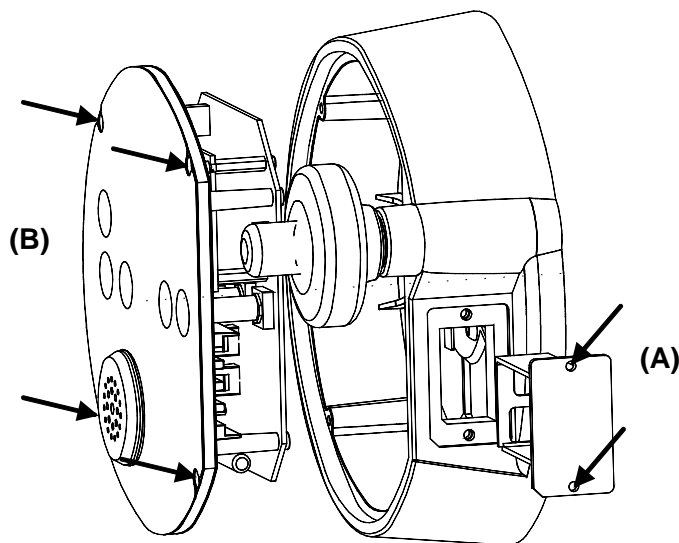

Figure 10-10
- Unscrew with the 2.5 Allen key the 2 screws (A) of the battery holder and pull it out as shown on Figure 10-10.
- Unscrew with the 2.5 Allen key the 4 screws (B) of the display unit and pull it gently out of the electronic box, as shown on Figure 10-10.
- Put back the new display unit in the electronic box; tighten the 4 screws (B) of Figure 10-10.
- Reinstall the battery holder with the 2 screws (A) of Figure 10-10. Refer to page **Error! Bookmark not defined..**